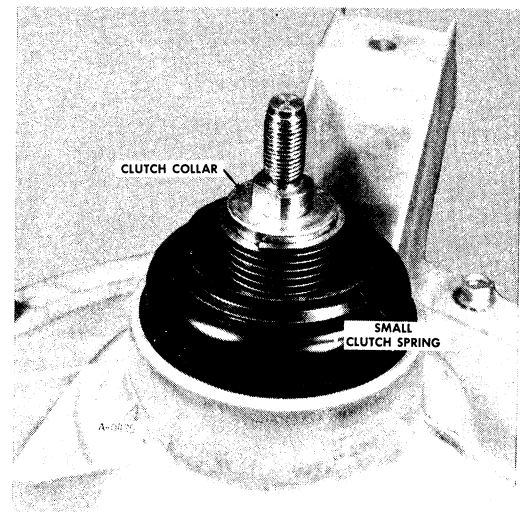

Figure 87.
1. Remove pulley nut, item 10, and steel and cork or rubber washers, items 8 and 9.
2. Remove pulley assembly. If item 4, the agitate spring, is not broken the pulley in turning at the same time lifting off of shaft will only turn one way. If the pulley turns in both directions without moving the gear train and the agitator shaft, a broken agitate spring would be more than likely. See Figure 87.